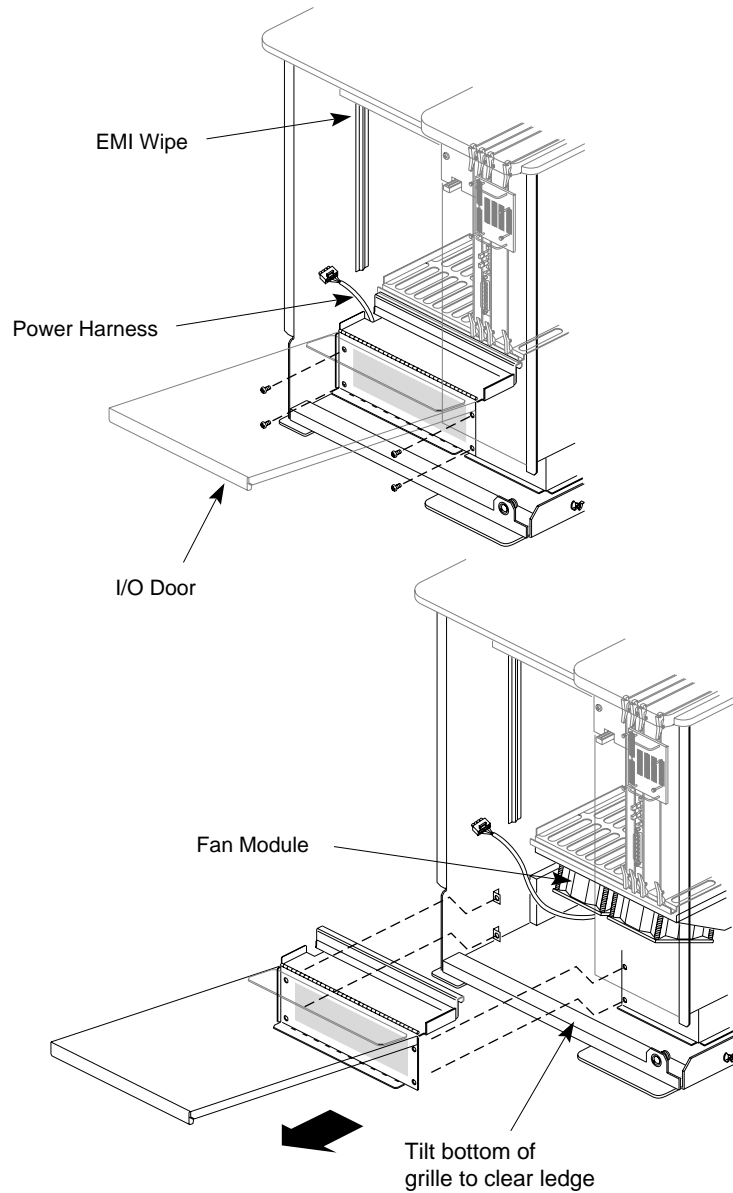

Figure 3-12 Removing the I/O Door
3. Carefully remove the I/O door from the chassis to prevent damage to the EMI wipes (silver-colored strips running vertically along the I/O door's closed position); route the power harness out of the notch in the lower left corner of the I/O door. See Figure 3-12.